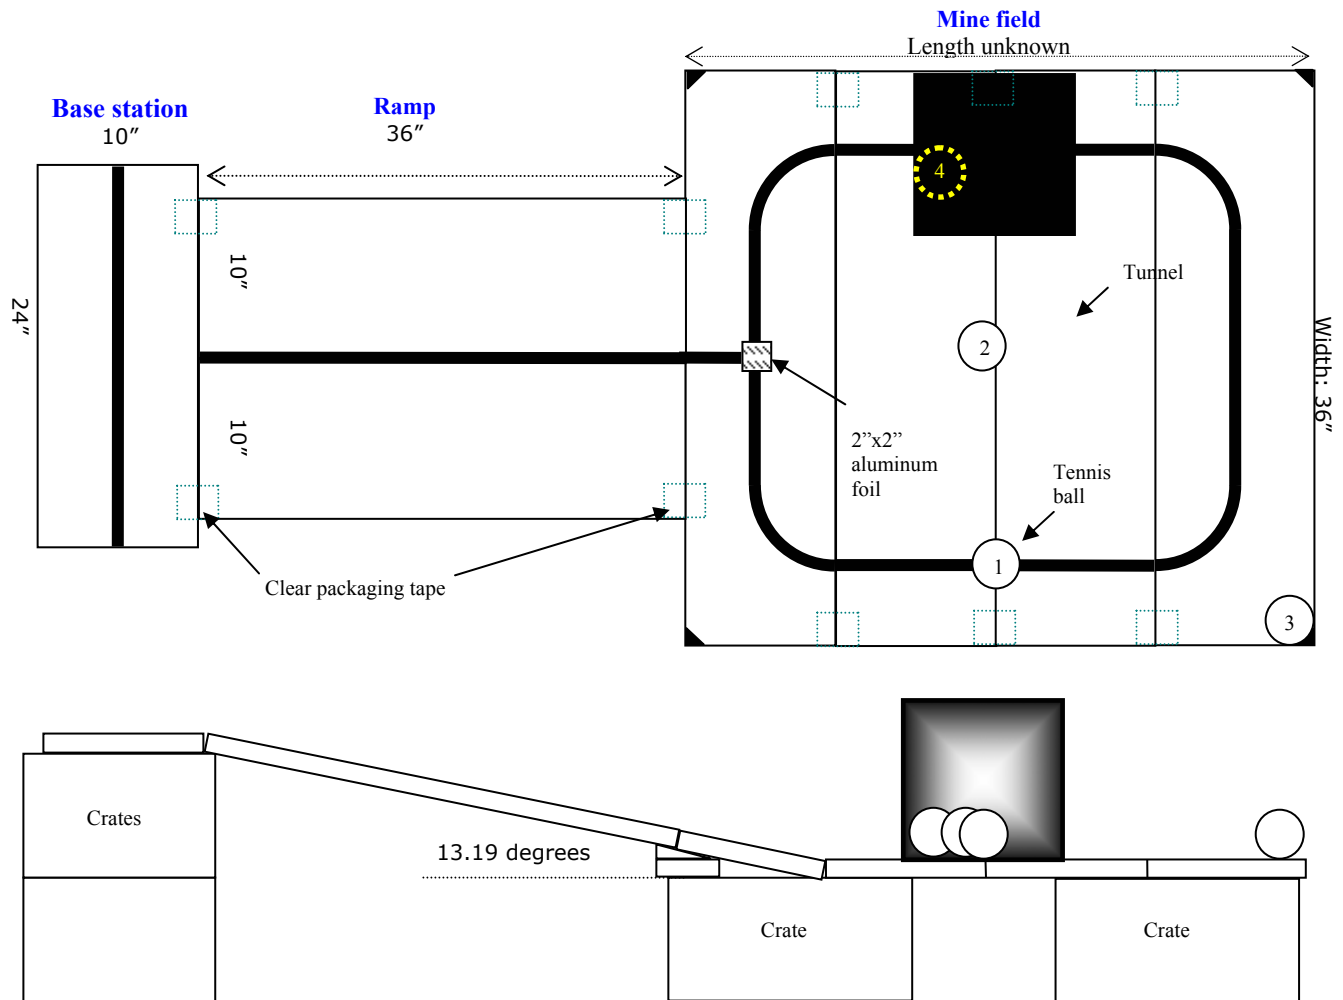

Figure 1. Playing field
- Tunnel will be located on the left-side straight line of the mine field from the ramp (the same location as in Figure 1).
Please note that the length of the mining field is unknown as shown in Figure 1.
As shown in figure 1 and 2, several multipurpose white shelves will be used for the path and the mine. The dimension of the white boards is unknown except for the start board which is 10"x24". Two 10x36" boards are used for the ramp. The angle of the ramp is 13.19 degrees. The size of the collapsed mine area is unknown, but only one board connecting the ramp will be tilted.
Note that the actual width of the bookshelves you can buy from local stores in the USA is slightly less than the specified size. The thickness of the bookshelves is about 5/8". Standard black electrical tape (width of 0.75") will be taped approximately in the middle for the shelves shown in Figure 1 and 2.
Note that there will be wider gaps between the base station board and the ramp boards than between other connecting boards. All the white boards will be taped together using transparent packaging tape (2" width, see Figure 1). If your robot is using skids, make sure they can slide over the tape. The color of the crates under the first board does not matter. The color of the floor where the shelves will be placed does not matter, but should not be too shiny (reflective).